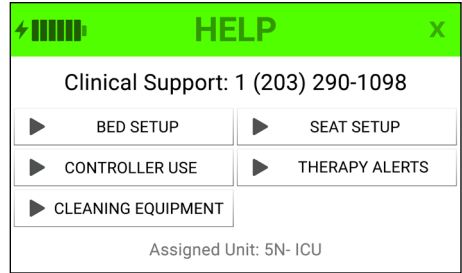
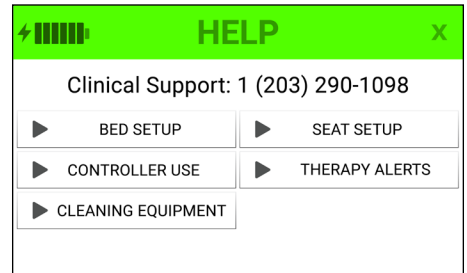

Figure 10. Help screen unit assignment on
Figure 11. Help screen unit assignment off
1. Press Help from the Set-up, Running, and Paused screens. Help screen will display. (Fig. 10 & 11)
4. Unit Assignment will display at bottom of help screen. Controllers may be configured to have the unit assignment feature 'ON' (Fig. 10) or 'OFF'. (Fig. 11)